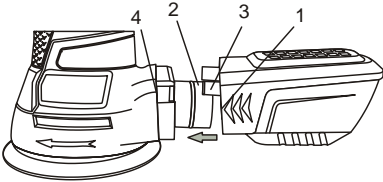

Fig. 1
1. Insert the dust duct box assembly sleeve (1) onto the dust chute (2) (Fig. 1).